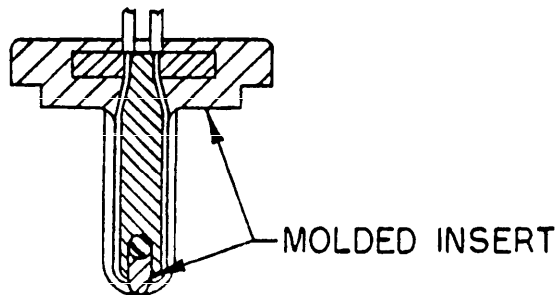

FIGURE 6. Molded insert.
- G. Remove molded part from machine, cable spacer from between cables, and trim sprues from molded plug body with a special tool. See Figure 6 (Molded Insert).